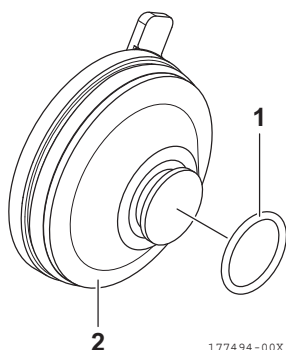

Figure 20
11. Lightly apply lubricating oil to the new O-ring (1, **Figure 20**), and install it in the provided slot on the cover assembly (2, **Figure 20**).